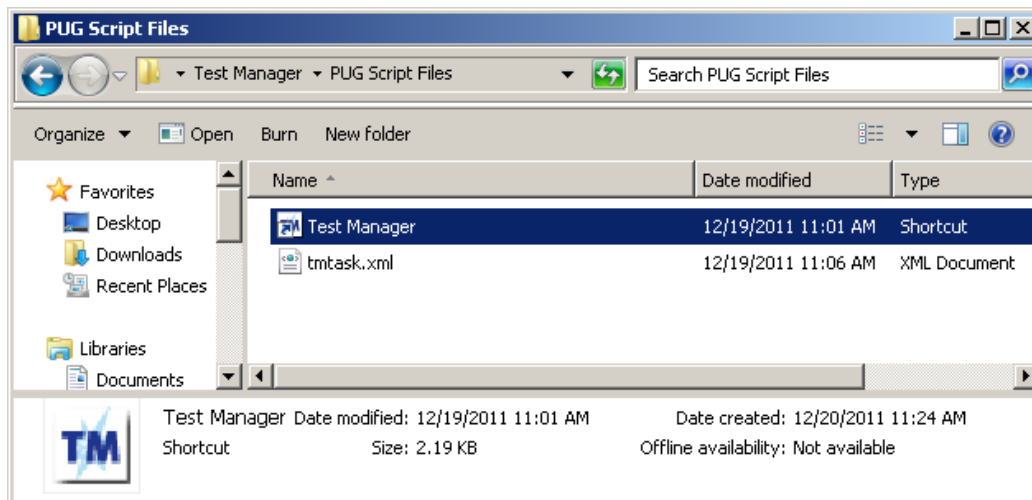

Figure 2-9: PUG Script Files
5. Replace the existing Test Manager Desktop Shortcut by navigating to the <8100 – LTE 4.4.0 Installer Root>\Test Manager\PUG Script Files folder, as shown in Figure 2-9.